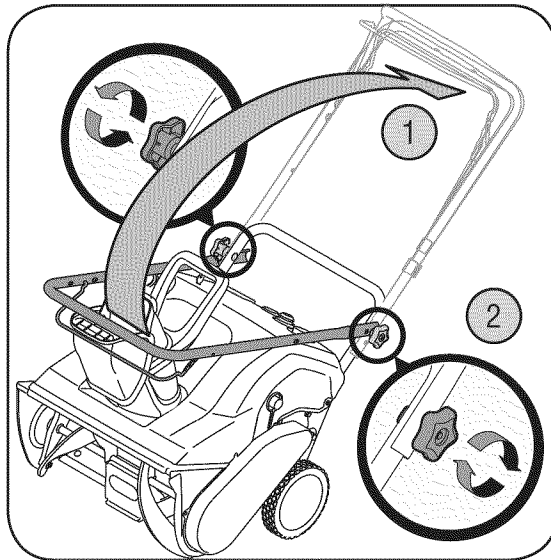

Figure 1
2. Making sure not to pinch the cable in the process, pivot the upper handle into the operating position as illustrated in Figure 1 until it clicks into place.
3. Tighten the star knobs to secure the handle in place as in Figure 1.